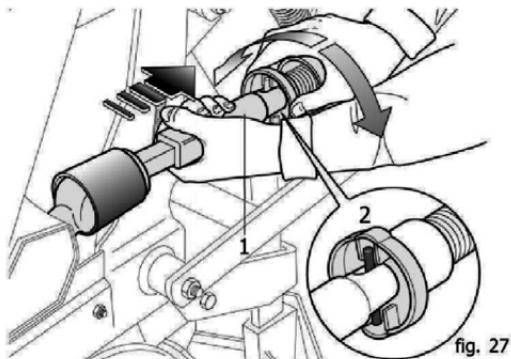

Fig. 25
You can cancel the connection of the unit with axle by following below processes (Fig. 25):
Push the sleeve (1, Fig. 25) by pressing in the direction of arrow, at the same time turn the ring (2, Fig. 25) until leaving from the pin.
-Pull up the sleeve (1, Fig. 25) backwards to the end.